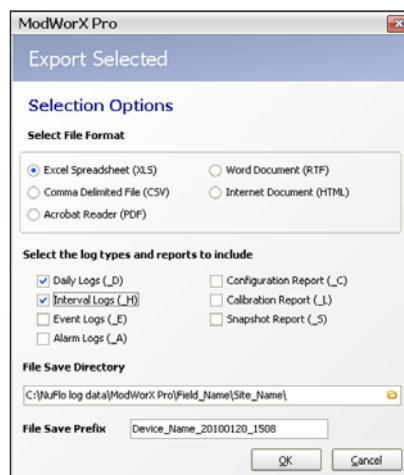

Figure 14.39
2. An Export Selected window will appear (Figure 14.39, page 206). To change the file path and/or file name from the defaults listed below, browse to the desired file path and/or type the desired entry in the field provided. See Log Directory and Filenames, page A-17 for more information.